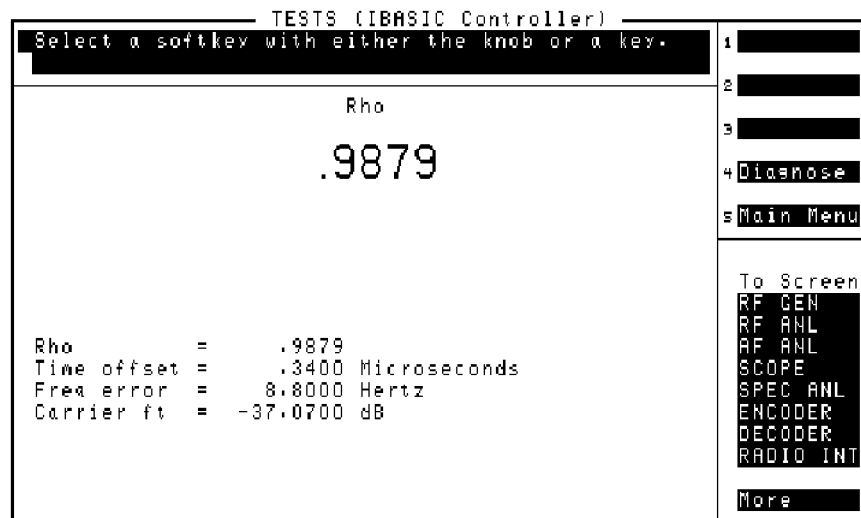

Figure 9
- 6 Scroll to and select **Measure Rho Parameters** screen (see figure 9).